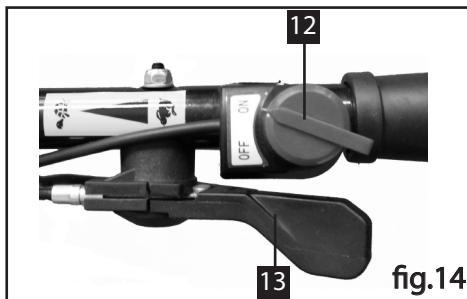

fig.14
3) Push below switch to the "ON" position.(Fig. 14)
6) Push the lever (13) down to adjust the speed(See Fig.14)